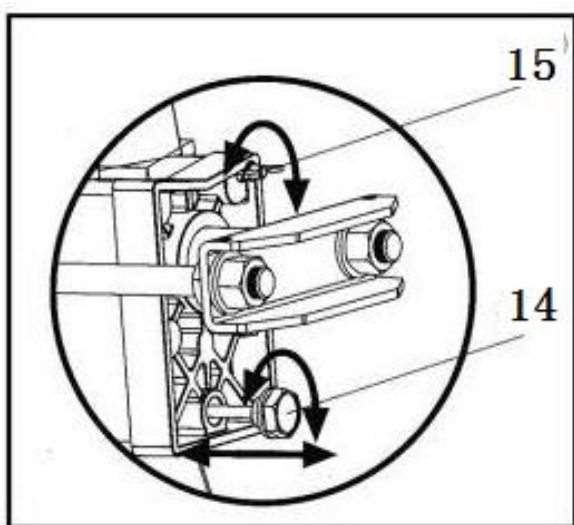

Fig.6
Before operating the log splitter, the Bleed Screw (15) Fig. 6, should be loosened by some rotations until air can go in and out of the oil tank smoothly.
2. Unscrew oil drain bolt (14 ) (fig.6) with dipstick to remove it.